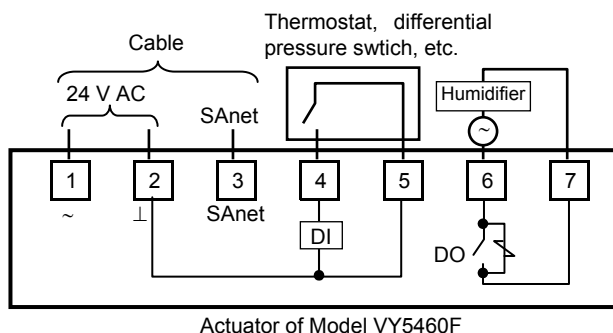

Figure 17. Basic connection example
- 3) Correctly connect the wires to the terminals with M3.5 screw terminal lugs, referring to Fig. 17.